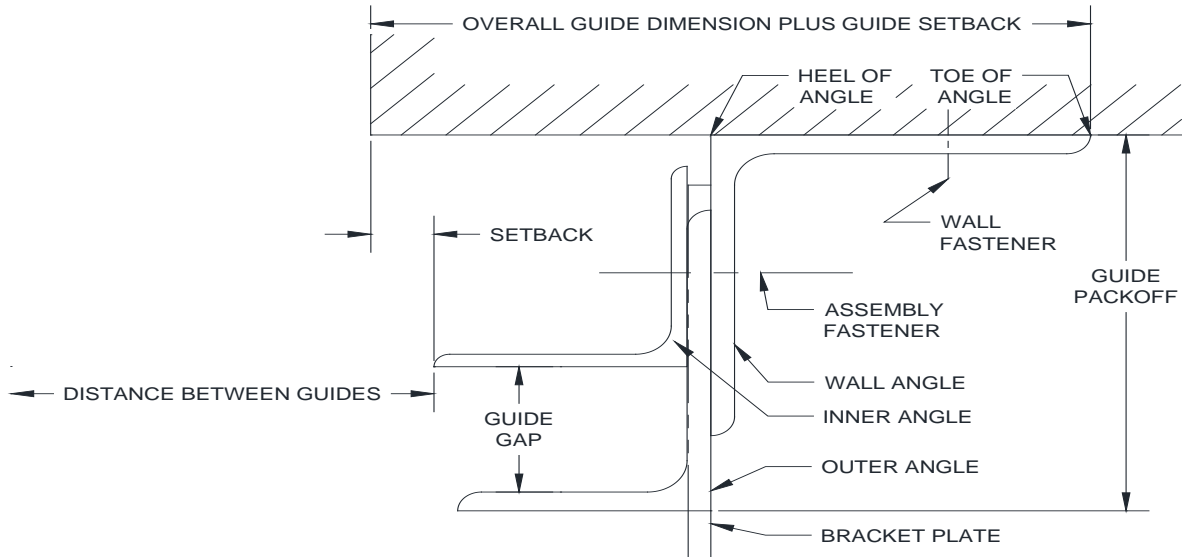

Figure 5.1 – Face of Wall “Z” Guide
▪ **Face of Wall Units (Figures 5.1 - 5.5):**
3. Measure the distance from the opening/jamb to the heel of the wall angle (on “E” guides) or the toe of the wall angle (on “Z” guides). This distance is referred to as the “*Overall Guide Dimension plus Guide Setback*”; see **Figures 5.1 - 5.5**. See the job construction drawings for the dimensions.